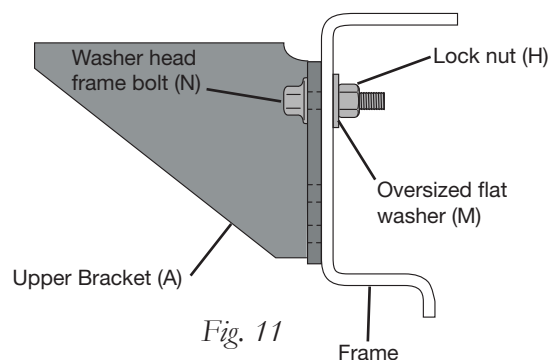

Fig. 11
3. Except for Dodge vehicles, loosely install a washer-head frame bolt, oversized flat washer, and lock nut (Fig. 11).